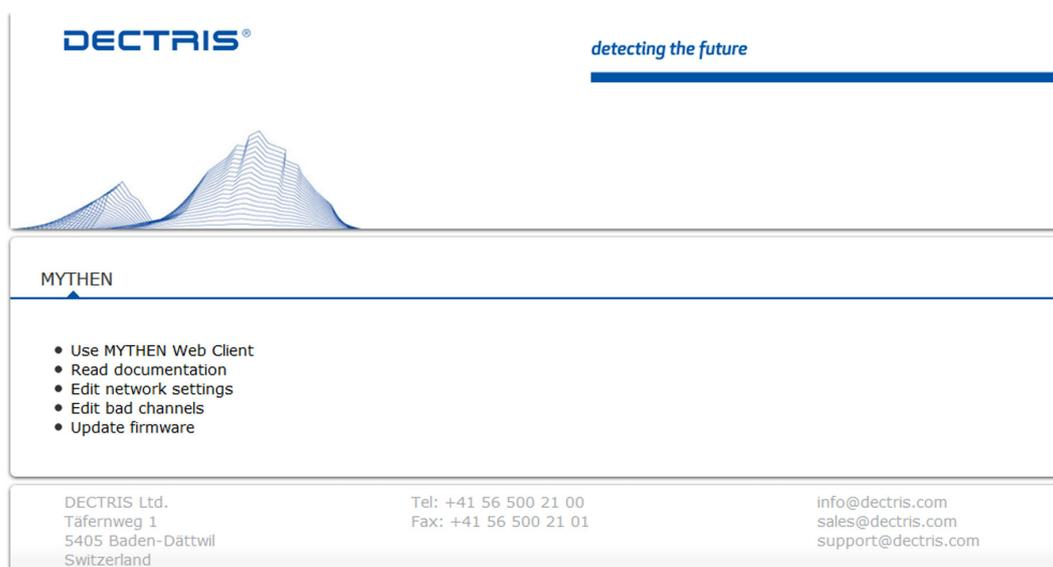

Figure 46. Access the DCS4 via your web browser.
3. Enter the IP address of the DCS4 system. By default the DECTRIS MYTHEN[®]2 systems are delivered with the IP 192.168.0.90. You should now see a screen like the one shown on Figure 46.